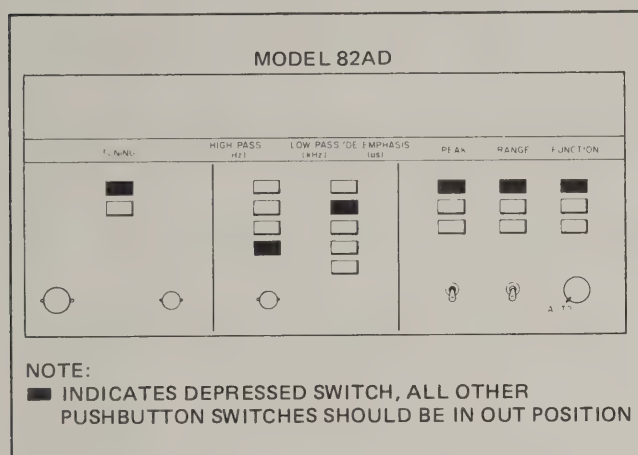

Figure 4-6 Audio Circuit Calibration Switch Selection
f. Set the Model 82AD switches as shown in Figure 4-6.